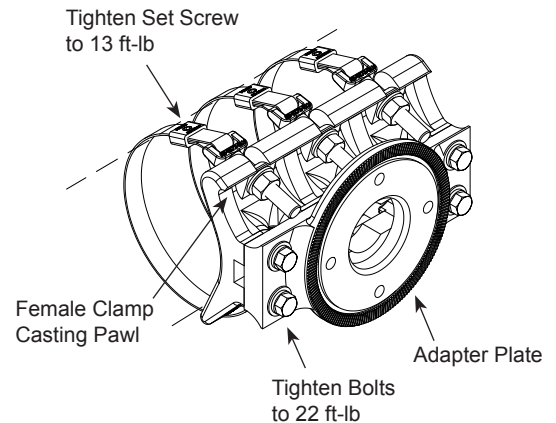

Figure 4
9. With a pair of pliers, crimp the bend in the band around the clamp screw and slide the band buckle over the free end of the band and position as close to the clamp screw assembly as possible. Torque the set screw in the band buckle to 13 ft-lb. (Figure 4)
13. Plumb and level the bracket and starting with the center band torque each 7/16" clamp screw nut to 22 ft-lb. DO NOT OVERTIGHTEN. (Figure 4)
14. Position the adapter plate on the clamp and install the (4) 3/8" hex head bolts, flatwashers, and lock washers and torque to 22 ft-lb . DO NOT OVERTIGHTEN. (Figure 4)